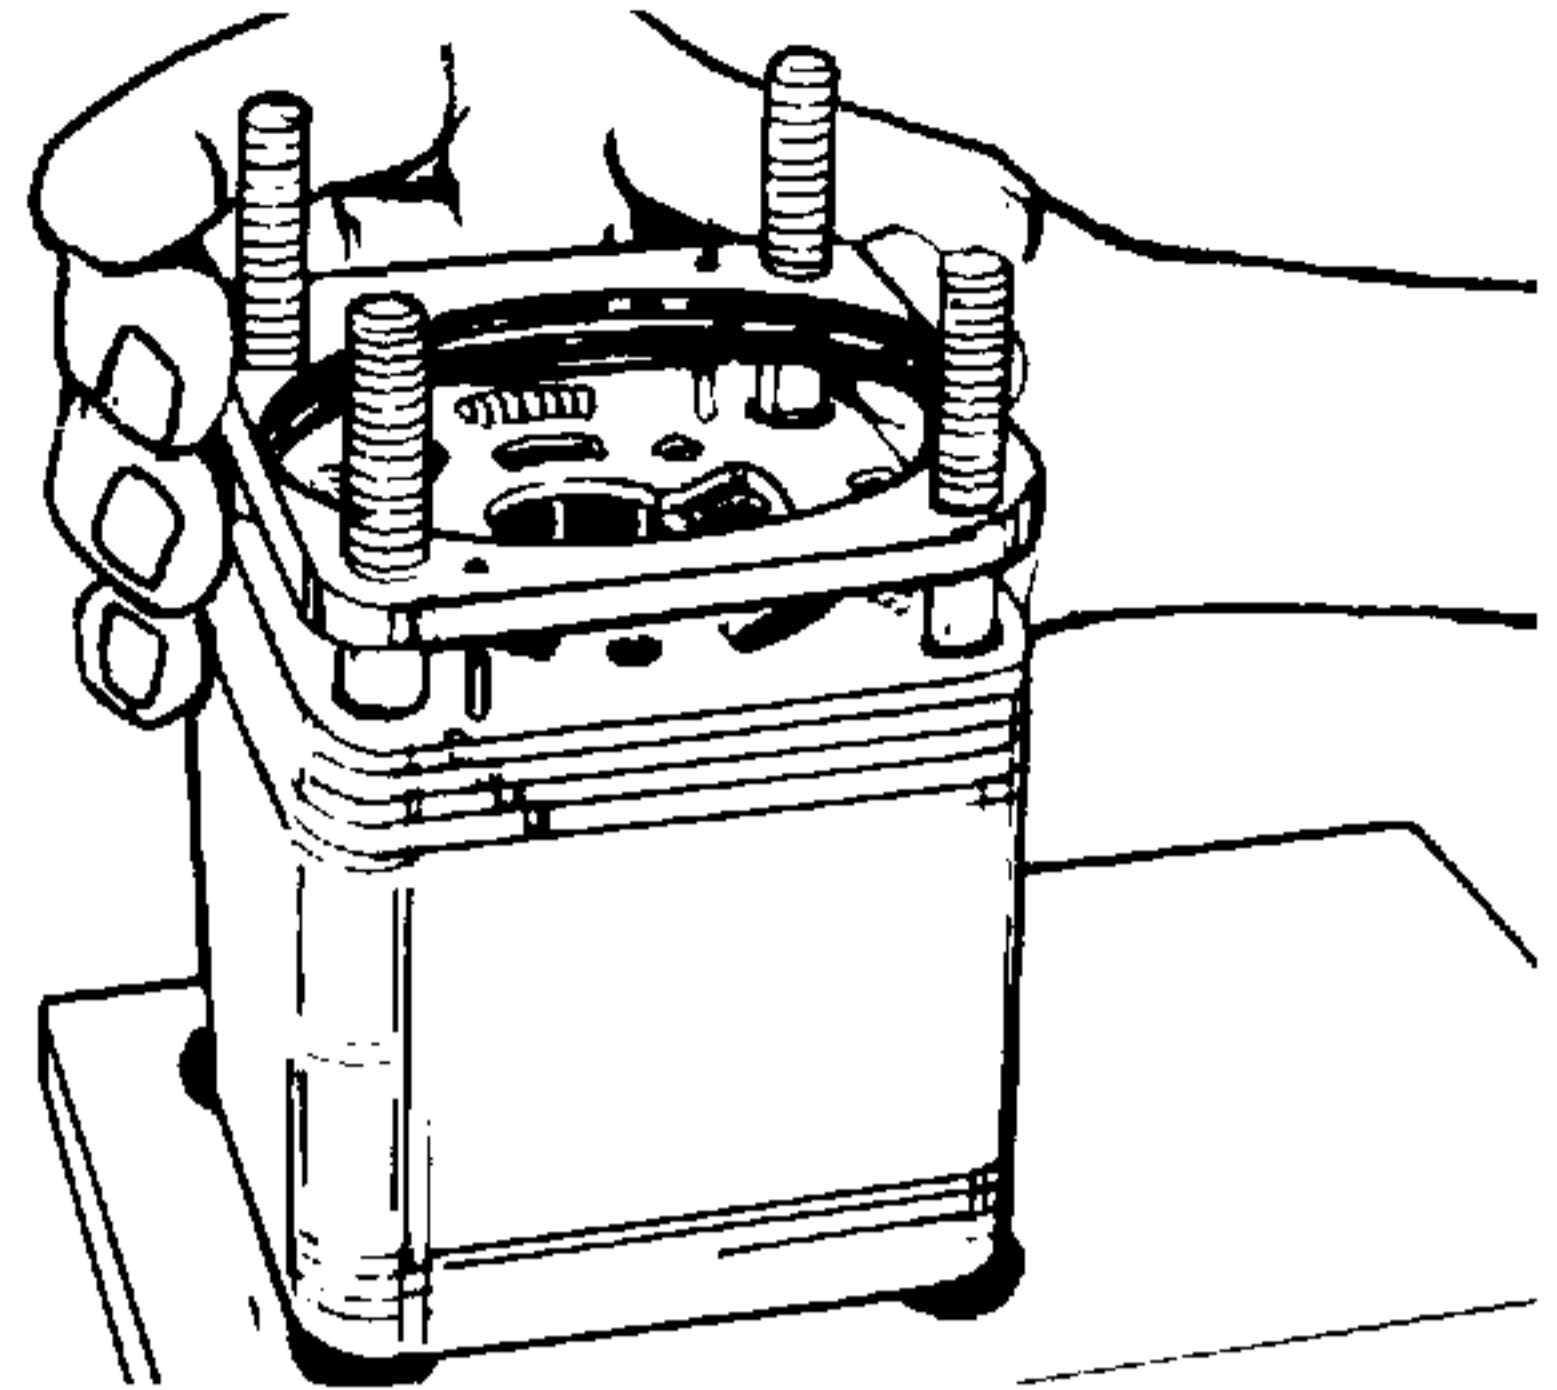

Figure 4-80. Installing Valve and Ring Assembly.
32. Apply clean grease to a seal ring (4) and place it in the valve and ring assembly (12) recess that will face down when installed. Install the valve and ring assembly over the bolts and needle rollers with seal ring facing the isolation manifold (13). See Figure 4-80.